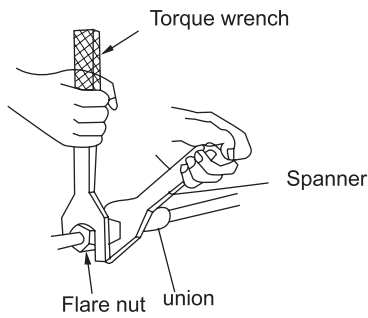

Figure 6
2. Screw in the flare nut by hand and then tighten the nut with spanner and torque wrench (figure 6). Tightening torque is listed in the following table.